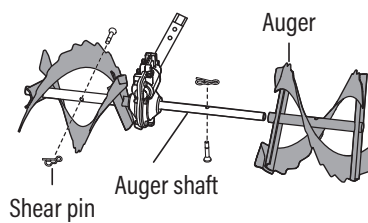

Fig. 1B
3. Remove the left and right shear pins and separate the augers from the auger shaft. (Fig. 1B)